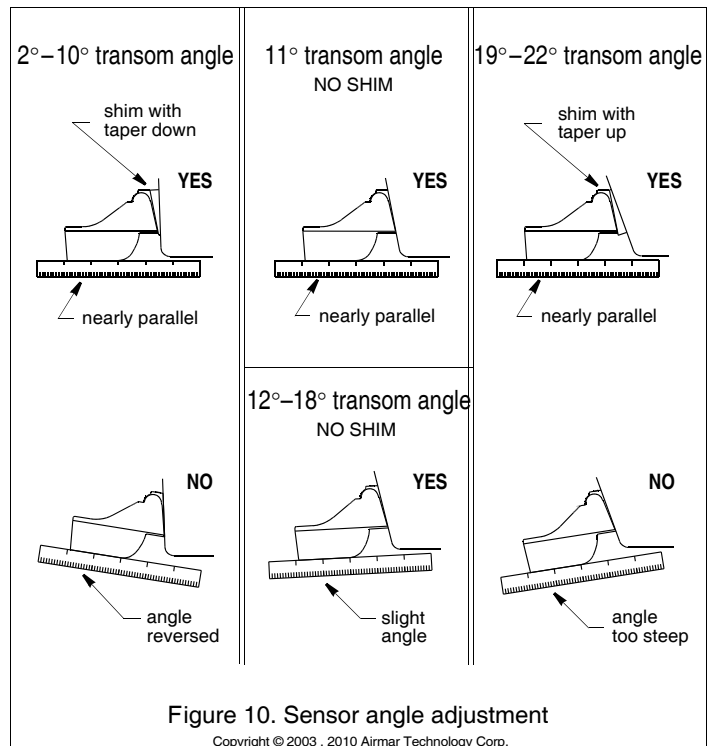

Figure 10. Sensor angle adjustment
1. Using a straight edge, sight the underside of the sensor relative to the underside of the hull (see Figure 10). The trailing edge of the sensor should be 1–3mm (1/16–1/8") below the leading edge of the sensor or parallel to the bottom of the hull.
- a. Increase the sensor's angle in the water. Review "Compensating for the Transom Angle: Shim" and see Figure 10.